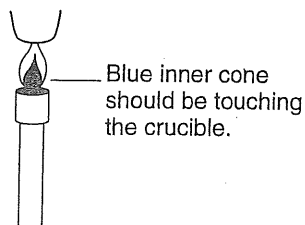

Figure 3.
8. Place the burner on the ring stand and heat the crucible in the hottest part of the flame. (See Figure 3.) Note the approximate time.